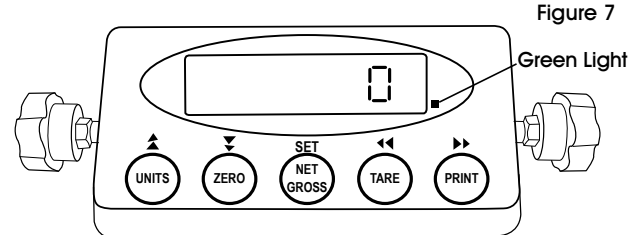

Figure 7
- Press PRINT to scroll to 'F10'. Press ZERO and verify that value is '0'. Press NET/GROSS to save. Press UNITS to exit. (See Figure 7)
- When stabilized, green light will appear. (See Figure 7)